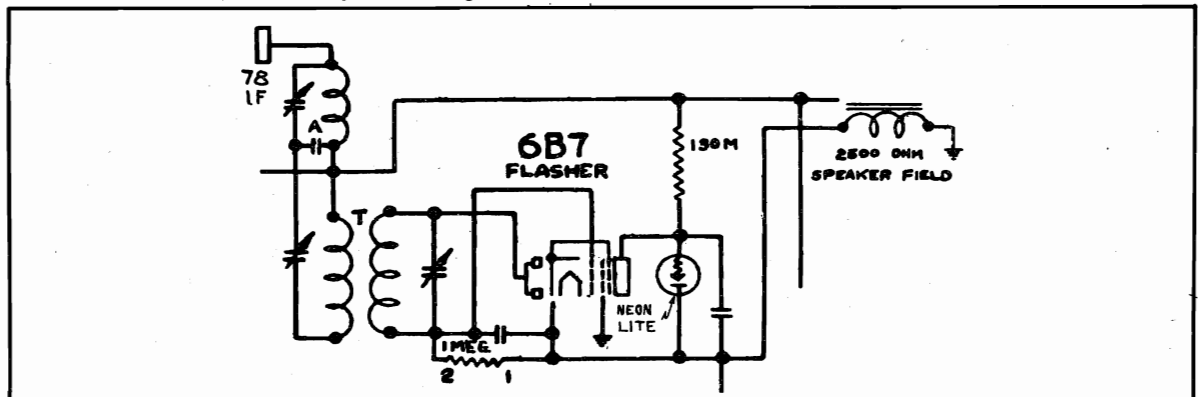

FIG. 83. THE NEON TUNING LIGHT CIRCUIT
The 6B7 tuning light circuit is shown schematically in Fig. 83. A portion of the IF signal voltage, that existing across condenser A, is stepped up and impressed on the diode part of the 6B7 by means of the sharply tuned transformer, T, which is wound with Litz wire. The rectified signal current flows through the 1 megohm resistor from point (1) to point (2) so that point (2) is negative with respect to point (1). The control grid of the 6B7 is connected to point (2) and the cathode to point (1). As the signal is tuned in, the voltage across the 1 megohm resistor increases, increasing the negative control grid bias on the 6B7, thereby cutting down